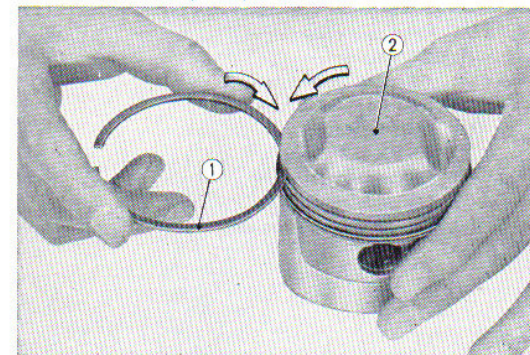

Fig. 3.71 Turn the ring around to the piston and check to contact condition
- a. When new piston ring is installed, a check should be made to assure that the ring fits freely in the groove. This can be done by rolling the piston ring externally in the piston groove. (Fig. 3.71)